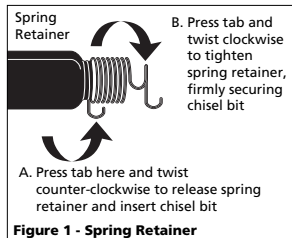

Figure 1 - Spring Retainer
The spring retainer holds the hammer in place. The retainer must be securely attached (See Figure 1). The retainer is a normal wear item and should be replaced when worn. Replace with MP2896 (2) piece hammer spring set. The retainer unscrews for easy hammer insertion.